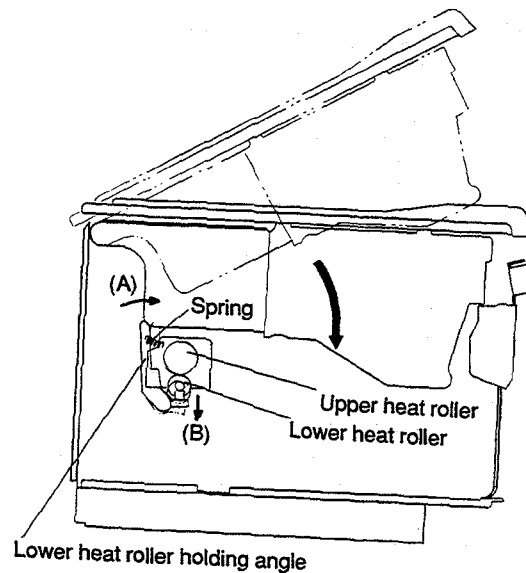

Fig. 7-16
When the clamshell is opened, as shown in Fig. 7-16 the lower heat roller holding angle is pulled in direction (A) by the spring and the lower heat roller moves down in direction (B). In this machine, when the clamshell is opened, the upper and the lower heat rollers are automatically separated for paper removal in the case of a paper jam.